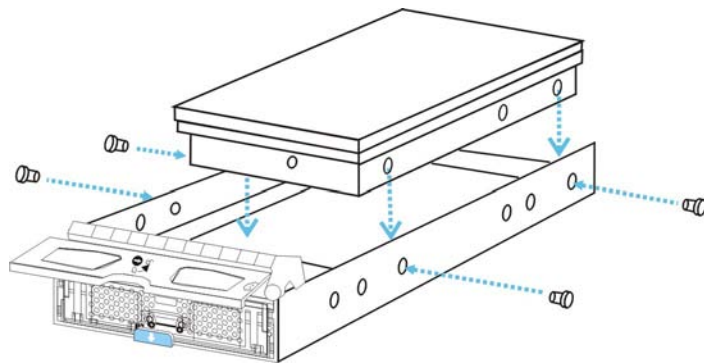

Figure 2-5: Installing a SATA Hard Drive
- Step 1. Place the SATA hard drive into the drive tray as shown in **Figure 2-5**, making sure that the hard drive is oriented in such a way that the SATA connector is facing the back of the drive tray, and the circuit side is facing downward.
- Step 2. Adjust the drive's location until the mounting holes in the drive canister are aligned with those on the hard drive. Secure the drive with four (4) of the supplied 6/32 flat-head screws. (See **Figure 2-5**)